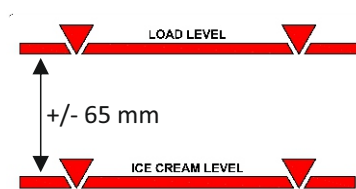

Figure 3
**VERY IMPORTANT!** Above this level (Load Level - Fig. 3), an acceptable minimum temperature in frozen products is no longer guaranteed.